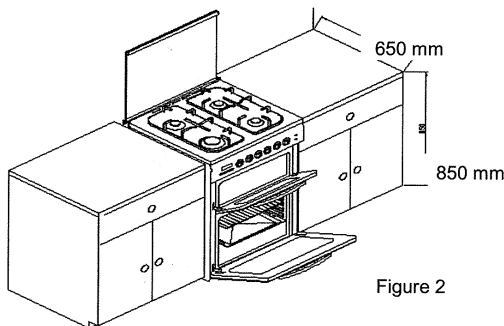

Figure 2
- Please look at Figure 2 for locating oven.